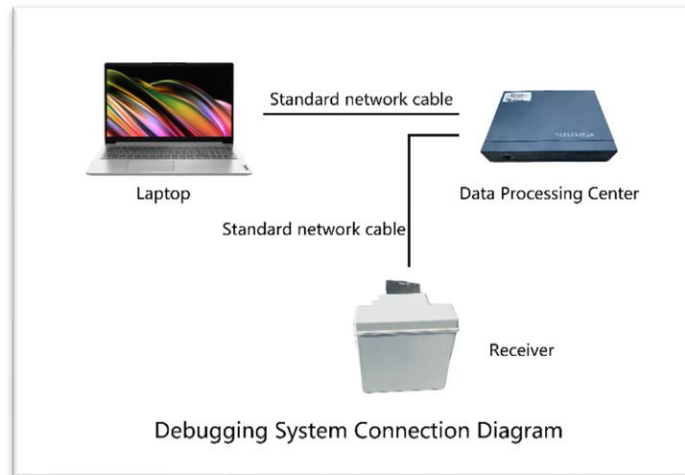

Figure 3-1: Schematic Diagram of System Debugging Connection
3.1.2. Insert the other end of another Ethernet cable into the network port of your computer and the "LAN" port of the intelligent data processing unit. The system connection is illustrated in Figure 3-1.